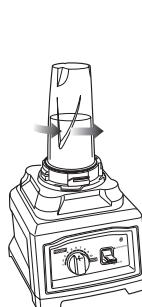

Fig. 12
- 7 When you have reached your desired consistency, turn the **Nutri Ninja Cup** counter-clockwise (**Fig.12**) and pull straight up to remove. (**Fig. 13**)